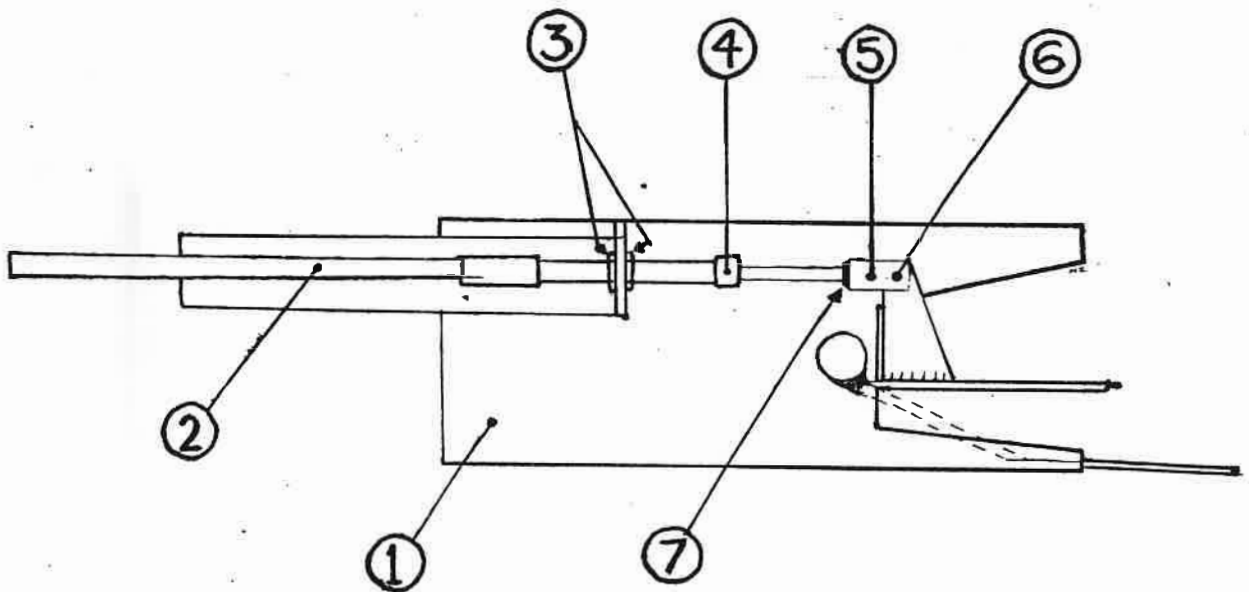

FIG.2
Assemble the items as shown so that when the foot pedal is fully depressed, a gap of approximately 2mm. exists. This position being adjustable by item 3 in Fig. 2. Do not overtighten these locknuts.